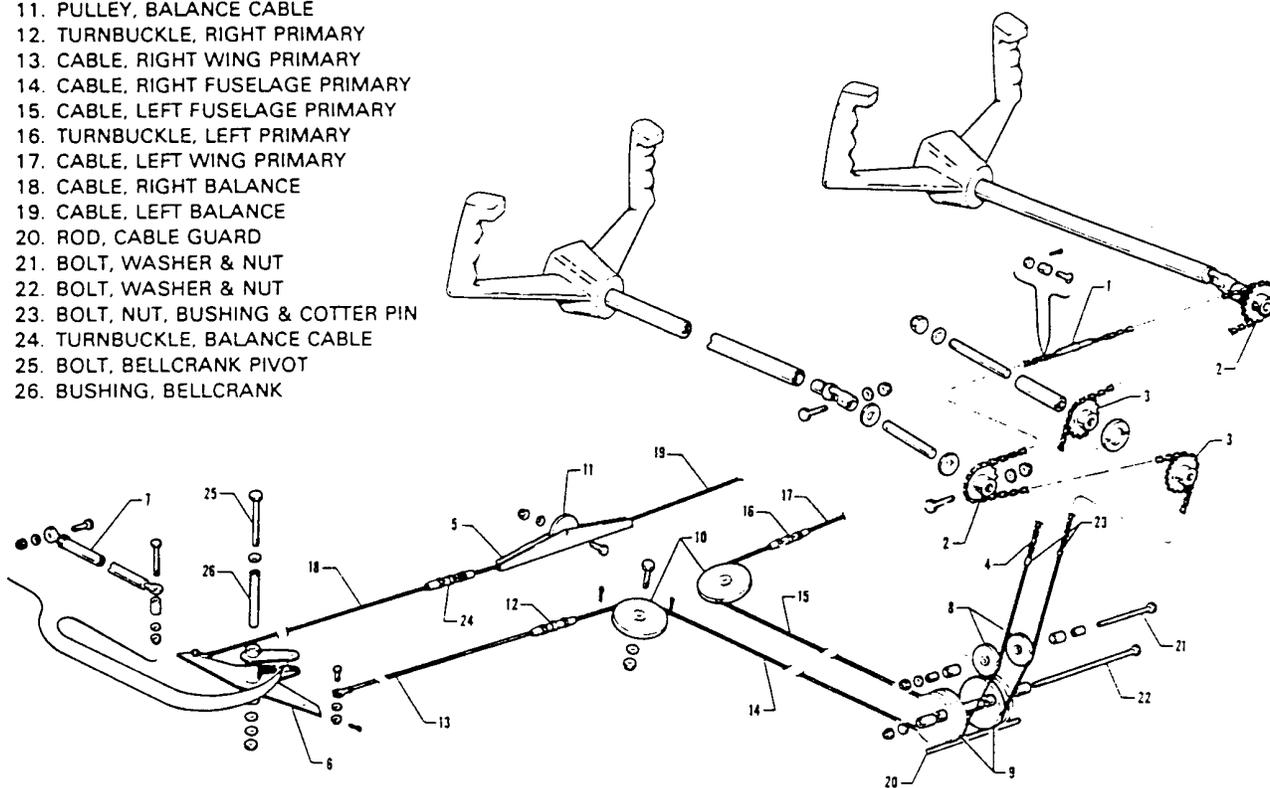

Figure 27-3. Aileron Controls (Typical)
#### **REMOVAL OF AILERON CONTROL CABLES (figure 27-3)**
**INSTALLATION OF AILERON CONTROL CABLES (figure 27-3)**
##### **REMOVAL OF AILERON BELLCRANK ASSEMBLY (figure 27-3)**
##### **INSTALLATION OF AILERON BELLCRANK ASSEMBLY (figure 27-3)**